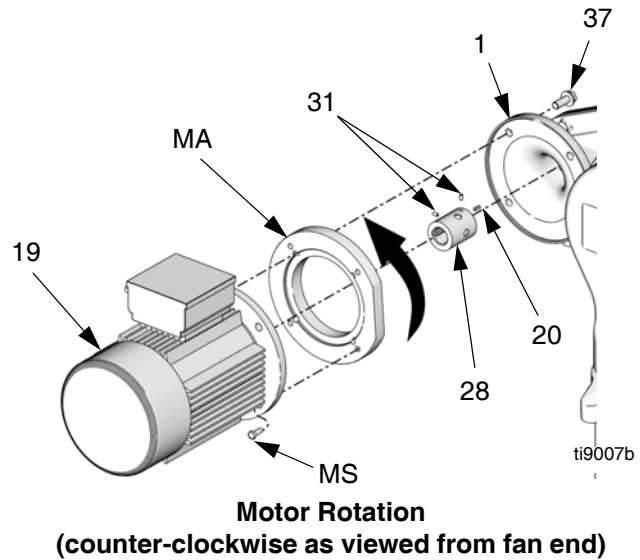
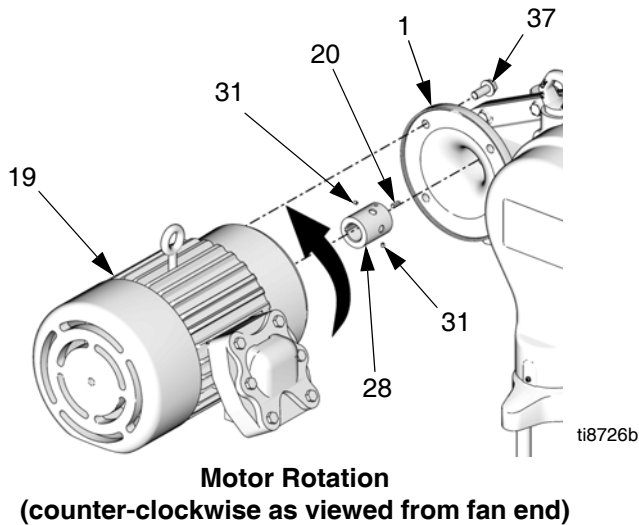

FIG. 23. IEC 112M/B5 and 100L/B5 Frame Electric Motors
FIG. 22. All NEMA 182/184 TC Frame Electric Motors
NOTE: See FIG. 22 for all NEMA 182/184 TC Frame electric motors. See FIG. 23 for IEC 112M/B5 and 100L/B5 Frame electric motors.
NOTE: When installing an IEC 112M/B5 or 100L/B5 Frame electric motor, ensure that the motor adapter (MA) and screws (MS) are in place before mounting the motor on the gear reducer. See FIG. 23.